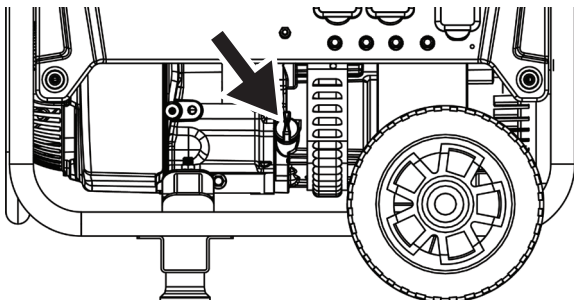

Figure 20 - Oil Fill Plug/Dipstick
5. Remove oil fill plug/dipstick (see Figure 20 below).